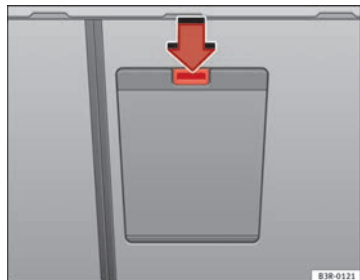

Fig. 117 Detailed view of the rear of the rear backrest: Ski bag cover
- Press the release catch for the ski bag cover → fig. 117 -arrow- and swivel the cover downwards.